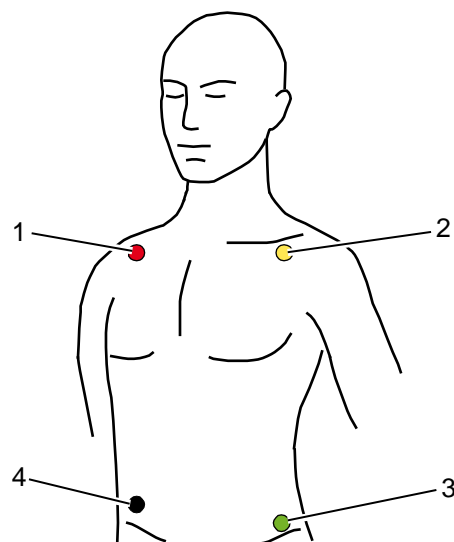

Fig. 6-3 ECG monitoring, applying the ECG electrodes (shortened form)
shortened: under the right clavicle (Fig. 6-3, item 1)
shortened: under the left clavicle (Fig. 6-3, item 2)
shortened: in the area of the left inguinal fold, central to the axis of the leg (Fig. 6-3, item 3)
shortened: in the area of the right inguinal fold, central to the axis of the leg (Fig. 6-3, item 4)